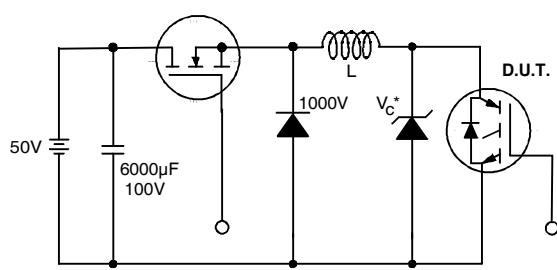

Figure 19. Clamped Inductive Load Test Circuit
- ② $V_{CC}=80\% (V_{CES})$, $V_{GE}=20V$, $L=10\mu H$, $R_G = 50\Omega$ (figure 19)
- ③ Pulse width $\leq 80\mu s$; duty factor $\leq 0.1\%$.
- ④ Pulse width 5.0 μs , single shot.
- ⑤ $t = 60s$, $f = 60Hz$